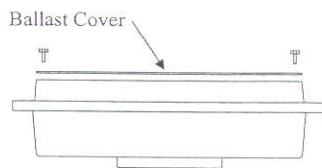

Figure 2
2. Remove the ballast cover. See Fig. 2.